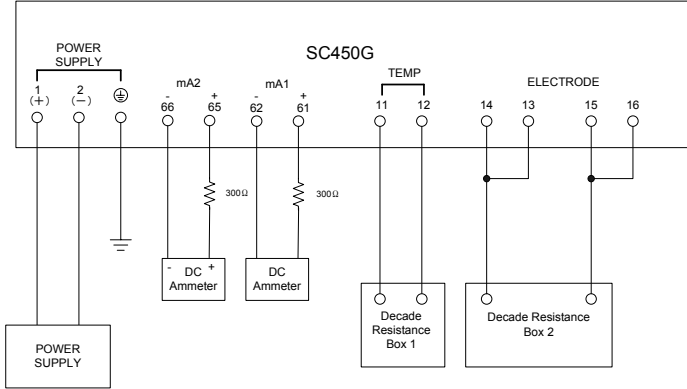

Figure 1 Testing Circuit and Test Equipment
- Connect the testing circuit as shown in Figure 1. Allow the instrument to warm up for at least 5 minutes before conducting the tests. For the connections for the insulation resistance and dielectric strength tests, follow the instructions in Sections 3.1 and 3.2.
Connect the testing circuit as shown in Figure 1 and set the equipment as follows: